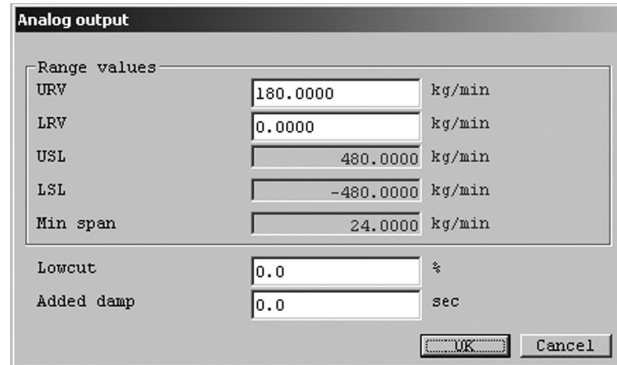

Fig.27
- ① Click on "Setup (S)" at the top-level menu of the screen, select "Analog Output " from " Config output" drop-down menu, and click on again.
- ② A message box like the one shown in Fig. 27 appears. Analog output is set up at this window.